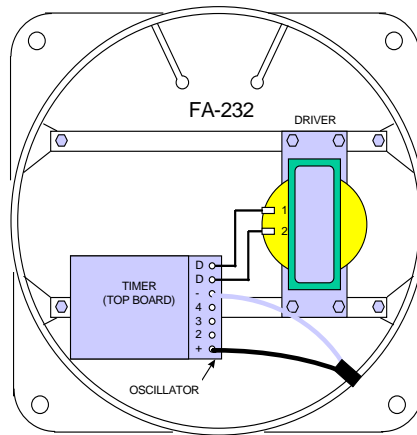

Figure 3-54
- g. Install spade lugs on each wire and install on the “+” and “-” terminals on the oscillator board, as shown in Figure 3-54. The oscillator board is located on the access plate on the SA-850 emitter. Wiring is similar.